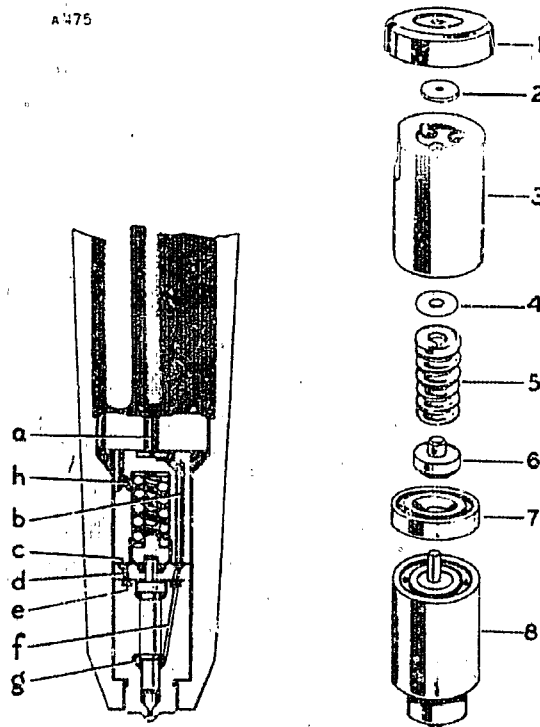

Figure 1
Referring to exploded view (Figure 1), the kit consists essentially of Nozzle Assembly (8) loaded by the nozzle pressure adjusting spring (5). In operation the fuel enters the duct (a) of valve seat spacer (1) and flows around the valve disc (2) into the 3 fuel ducts (b) drilled in valve spring spacer (3). Fuel then flows into the annular groove (c) and through 3 ducts (d) in valve stop spacer (7), into the annular groove (e) in the nozzle body (8), through ducts (f) and into the nozzle sump (g). When the fuel pressure is raised to the nozzle opening pressure, the nozzle valve lifts against the spring (5) and fuel flows past the nozzle valve seat through the nozzle orifices and into the engine.